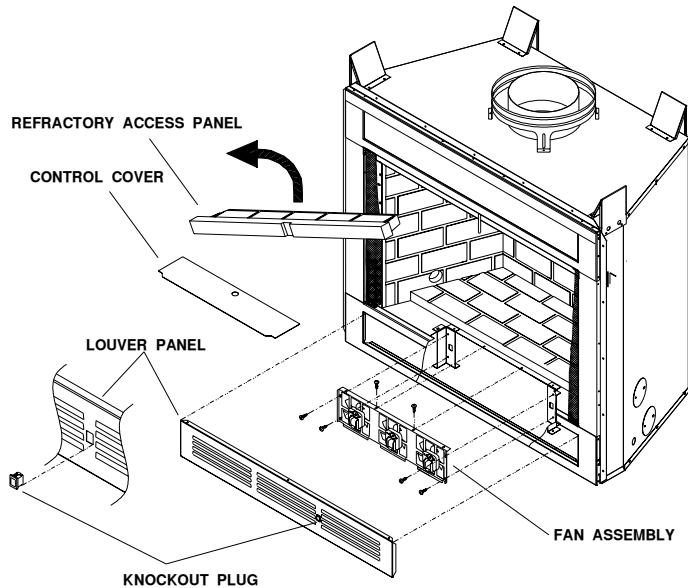

Figure 3 – Accessing the Blower Compartment
2. Remove the front refractory access panel by lifting up and angling out through the fireplace opening. See **Figure 3** on page 2.
5. Remove the knockout plug from the lower louver panel. See **Figure 3**, on page 2.